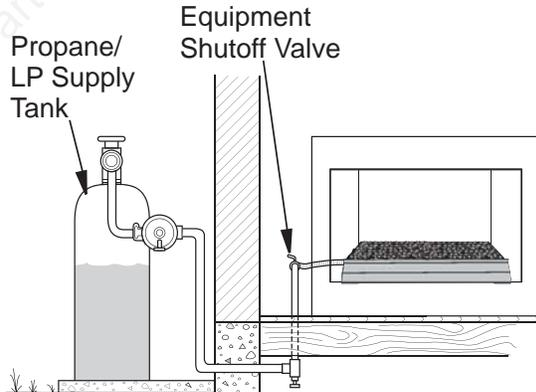

Figure 15 - Checking Gas Joints for Propane/LP Gas Fireplace
3. Check all joints from gas meter to equipment shutoff valve for natural gas or propane/LP supply to equipment shutoff valve for propane/LP (see *Figure 15 or 16*). Apply noncorrosive leak detection fluid to all joints. Bubbles forming show a leak.
4. Check all joints from equipment shutoff valve to gas valve (see **Figure 15 or 16**). Apply noncorrosive leak detection fluid to all joints. Bubbles forming show a leak.